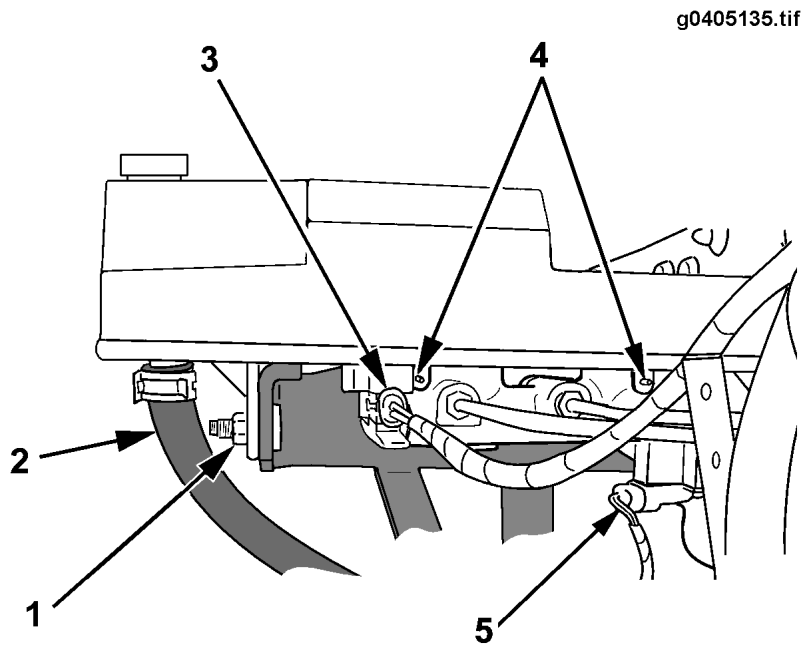

Figure 35 Roll Pins Securing Reservoir to Master Cylinder
19. Disconnect the MC/reservoir by driving out the 2 roll pins securing the reservoir to the MC. Refer to FIGURE 35.
4. Using 1 mounting nut, secure the reservoir to the bracket. Refer to FIGURE 35. Torque the nut to 29 to 32 Nm (21 to 24 Lbf-ft).
10. Connect the electrical connections to the brake light switch on the MC, and the fluid level switch on the MC reservoir. Refer to FIGURE 35 (See Figure 35, page 70).
14. Remove the 2 roll pins securing the reservoir to the MC. Refer to FIGURE 35 (See Figure 35, page 70).
6. Use the nut removed earlier to attach the reservoir to the bracket. Refer to FIGURE 35 (See Figure 35, page 70). Torque the nut to 29 to 32 Nm (21 to 24 Lbf-ft).
The fluid level switch is located on the bottom of the MC reservoir. Refer to FIGURE 35 (See Figure 35, page 70). The switch can be removed without opening the brake fluid system; therefore, it can be replaced without depressurizing the system.